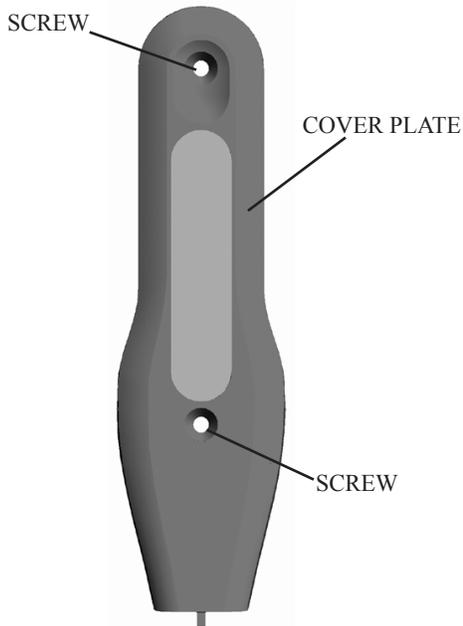

FIGURE 1
1. Remove the two (2) cover plate screws. (FIG. 1)